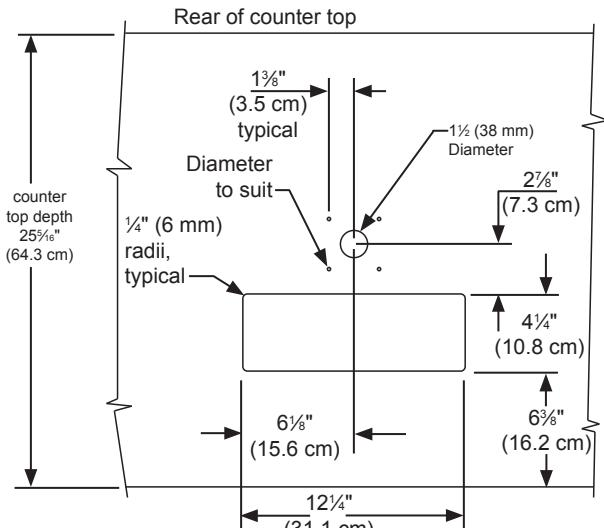

Figure 27
The cutout dimensions shown in Figure 27 are based on a $25\frac{1}{16}$ " (64.3 cm) deep counter top. Your counter top may be different than this and require other front to back dimensioning. Refer to the product dimensions on pages 6 and 7 when determining the required dimensions.
4. If you are installing your keg refrigerator under a counter you will need to drill 5 holes in the counter top to mount the tower. The first hole is a $1\frac{1}{2}$ " diameter hole located at the center of the tower for the beer line, locate approximately $13\frac{1}{2}$ " (34.3 cm) from the front edge of the counter top (based on a counter top depth of $25\frac{1}{16}$ "). Next drill the 4 tower mounting holes per the dimensions in Figure 27. The hole diameter is dependent on the counter top material and if screw anchors are required. The screws supplied are in the literature pack and are a #10 x 1" type AB stainless steel screw. Mark and cut the rectangular cutout for the drain sump. After the holes are drilled and the keg refrigerator is in place under the counter top feed the beer line through the tower gasket, the $1\frac{1}{2}$ " hole in the counter top and the hole in the top of the keg refrigerator. Mount the tower to the counter top with the 4 screws provided. Place the counter top drain sump, from the literature pack, in the rectangular hole with the radius cutout to the rear around the tower and place the grate in the sump.